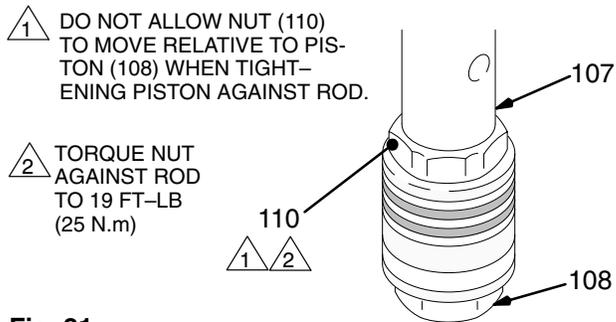

Fig. 21
3. Tighten the nut (110) onto the piston valve (108) to 2 in-lb (0.23 N.m). See Fig. 21.
6. Hand tighten the valve into the piston rod just until the nut (110) contacts the rod. See Fig. 21.
7. Place the flats of the rod (107) in a smooth jaw vise.
8. **CAREFULLY** tighten the nut (110) against the piston rod to 19 ft-lb (25 N.m). See Fig. 21.
Use two wrenches to maintain the alignment mentioned in Fig. 21.